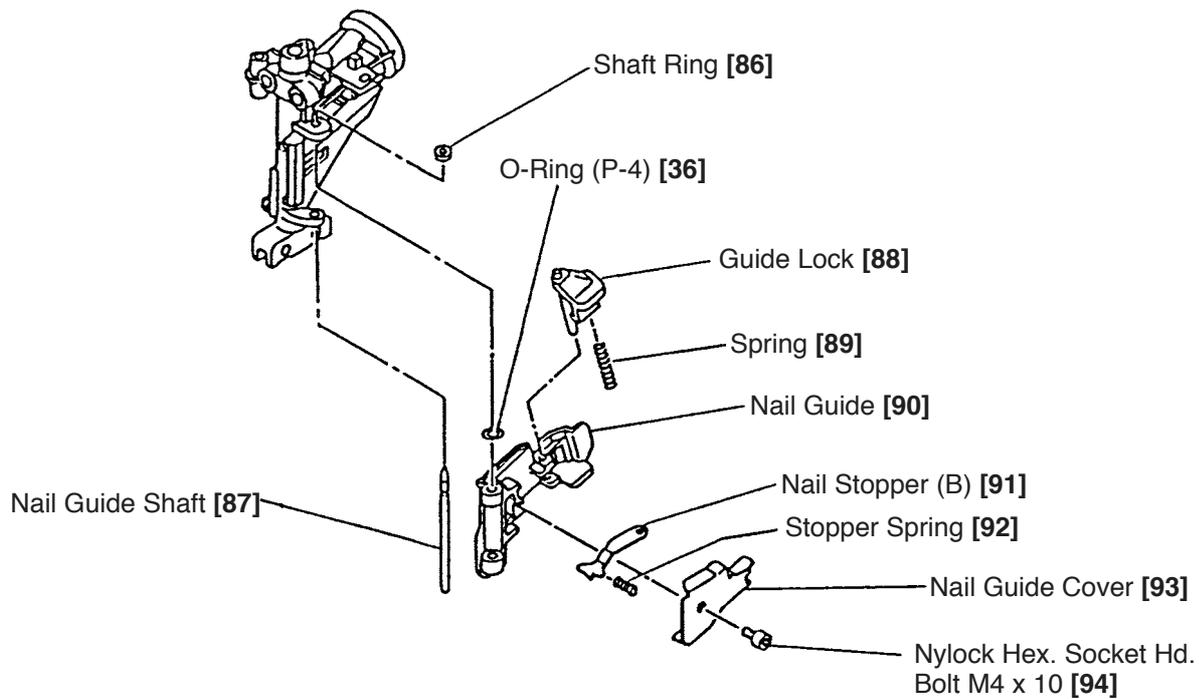

Fig. 25
(4) Disassembly and reassembly of the Nail Guide [90] (See Fig. 25.)